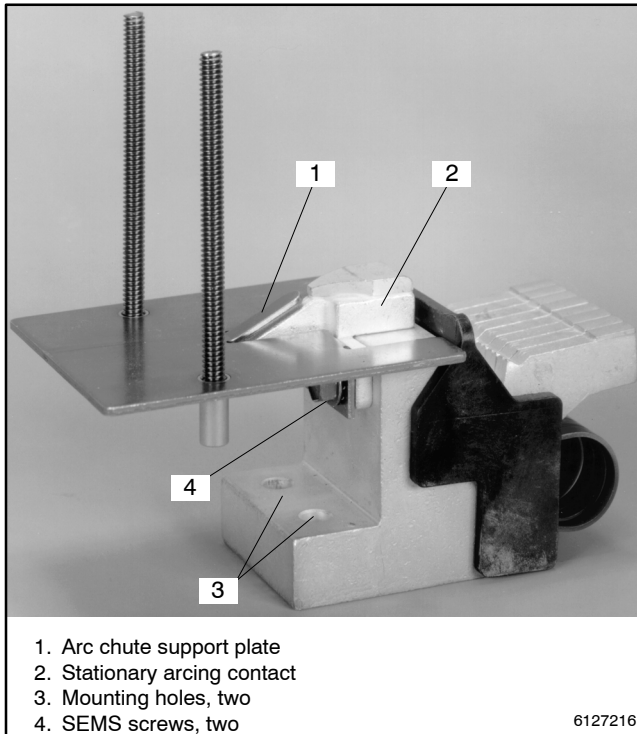

Figure 9-15 Stationary Contact Assembly
4. Remove the stationary contact assembly. Use a 3/8 in. socket wrench to remove the two SEMS screws from the top (or bottom) of each stationary contact assembly. Then use a 1/2 in. socket wrench with 12 in. extension to remove two nuts with lock washers from the base of each main stationary contact assembly. See Figure 9-15.